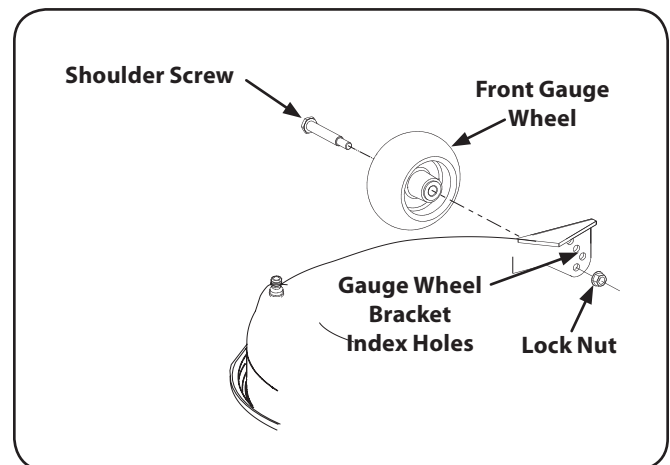

Figure 6-7
2. Remove the lock nut securing one of the front gauge wheel shoulder screws to the deck. Remove the gauge wheel and shoulder screw. Refer to Figure 6-7.